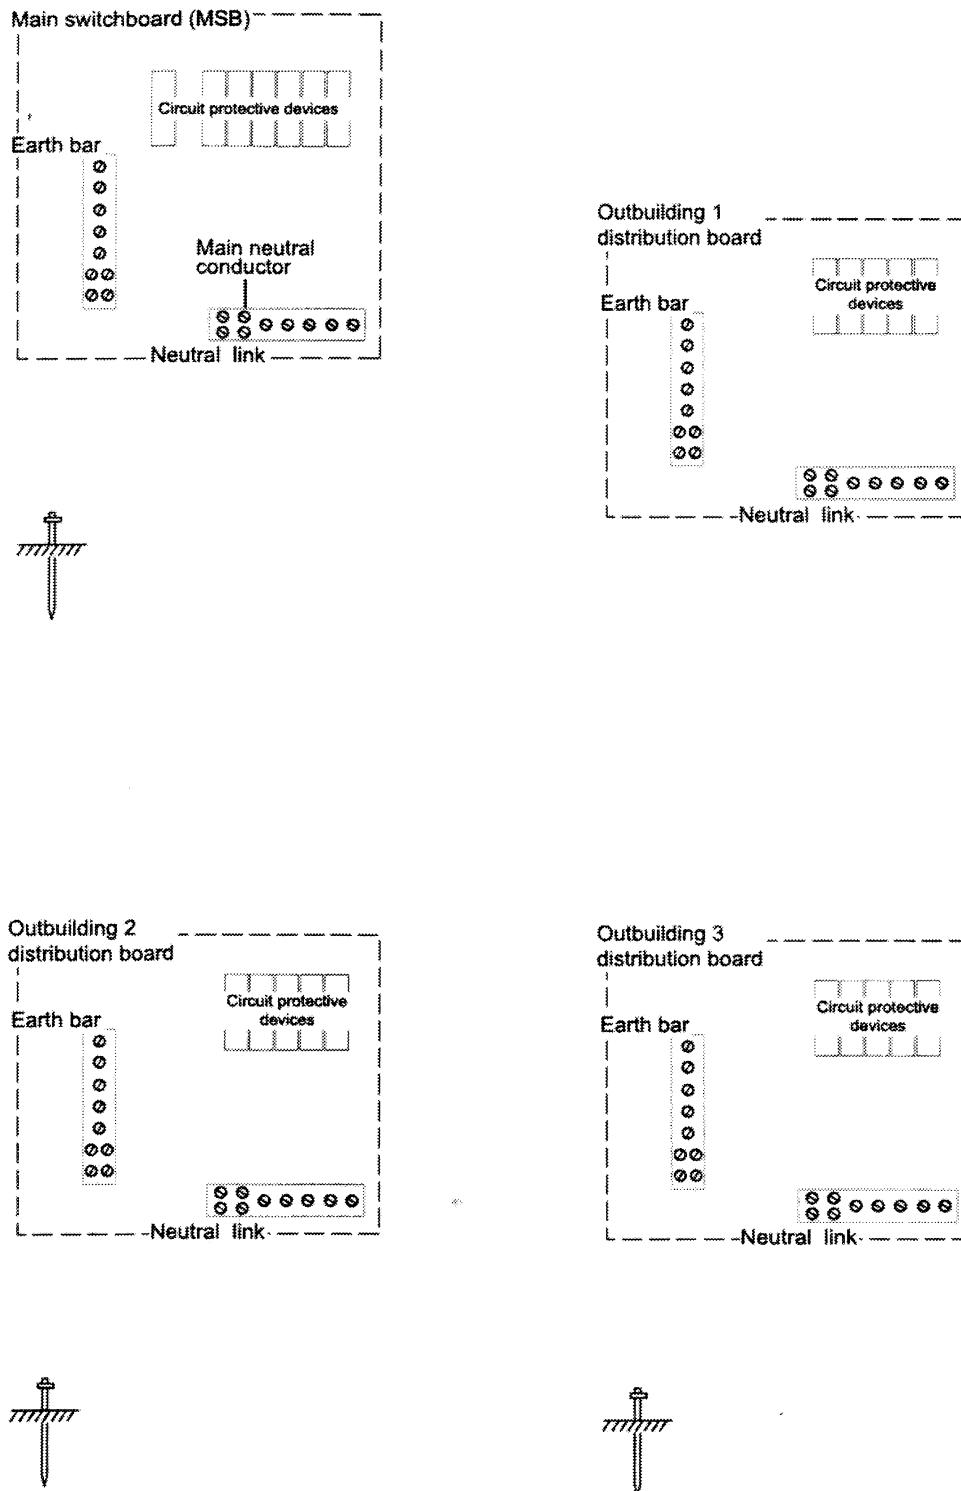

Figure 3.3 Earthing outbuildings
3. In the electrical installation represented in Figure 3.3 outbuilding 3 is to be supplied via outbuilding 2 and both outbuilding are to have separate MEN installations. Outbuilding 1 does not have a separate MEN installation.